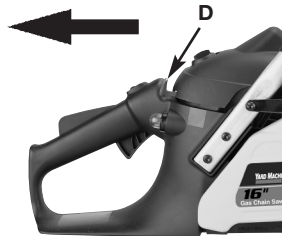

Fig. 5
5. Pull out the choke (D) to the point where it latches in place. (Fig. 5)